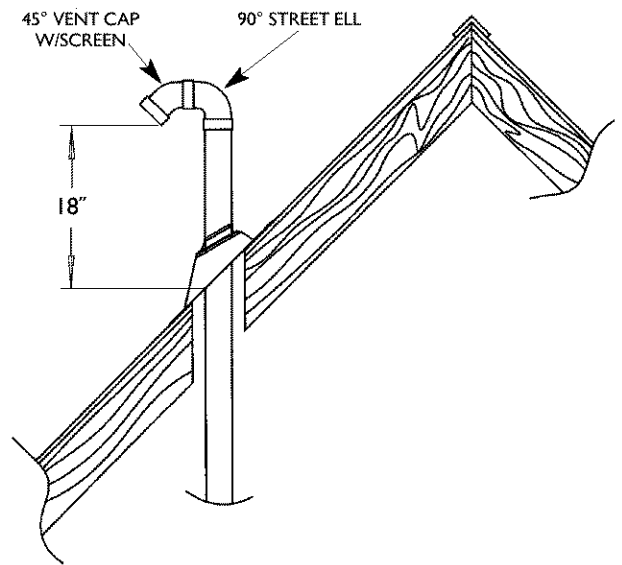

Figure 5
- The Power Vent outlet terminal shall terminate at least 18" above the roof surface. Figure 5.